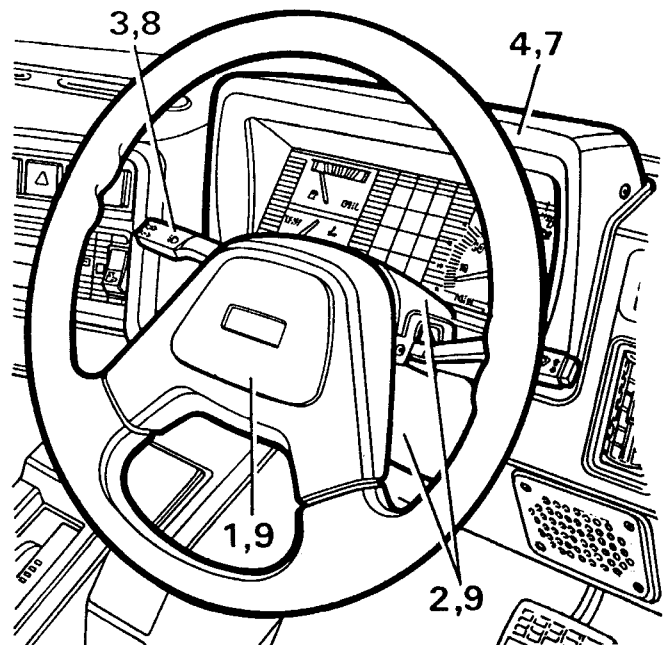

Figure 21
- 1 Prise out centre pad, unscrew retaining bolt, and remove, steering wheel, see figure 21.